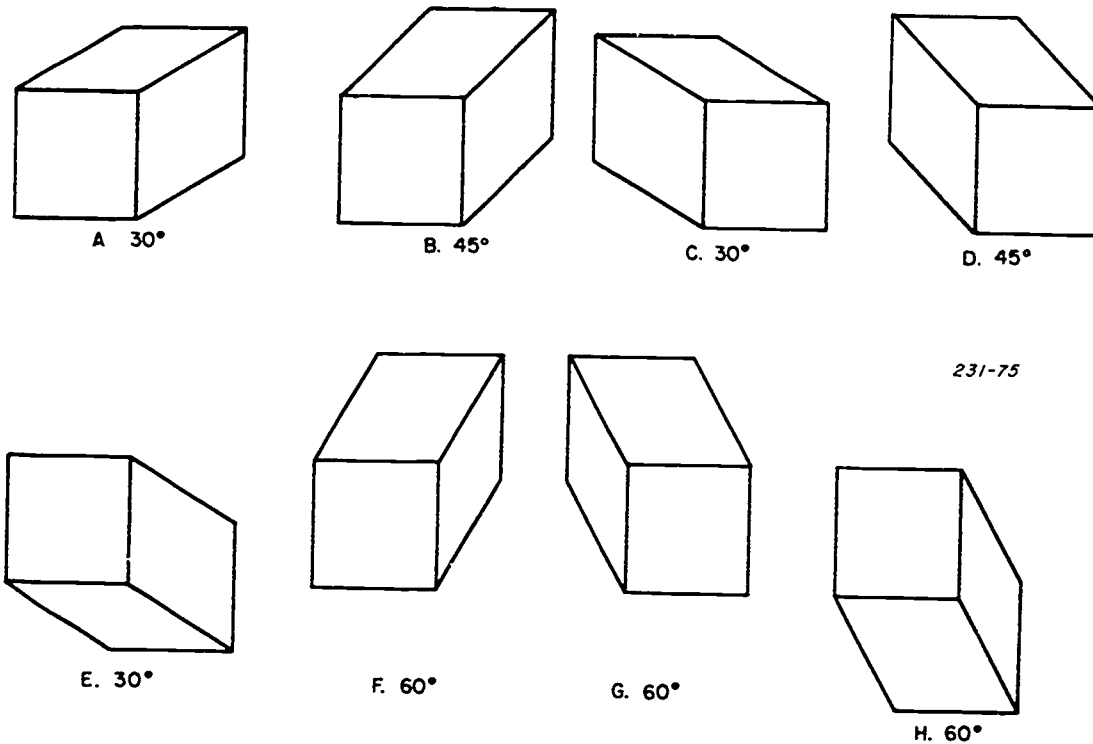

Figure 4-65. Variations in views by angle of receding axes.
**Cavalier and Cabinet Types.** Following are the definitions for these two particular types of oblique projections (see fig. 4-65).
(1) An oblique drawing is called a cavalier when the receding lines are true length. (Projectors at an angle of  $45^\circ$  with the image plane.)
(2) An oblique drawing is called a cabinet when the receding lines are drawn half of true length.